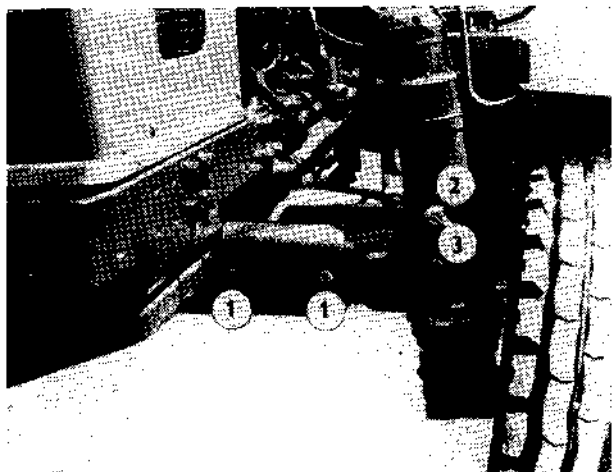

Fig. 35
### **Sprung extension (adapter) modification (Fig. 35/2)**
1. Unscrew bolts of extension body cover lids and remove the lids (Fig. 35/3).
2. Unscrew front axle extension bolt nuts and remove the bolts (Fig. 35/1).